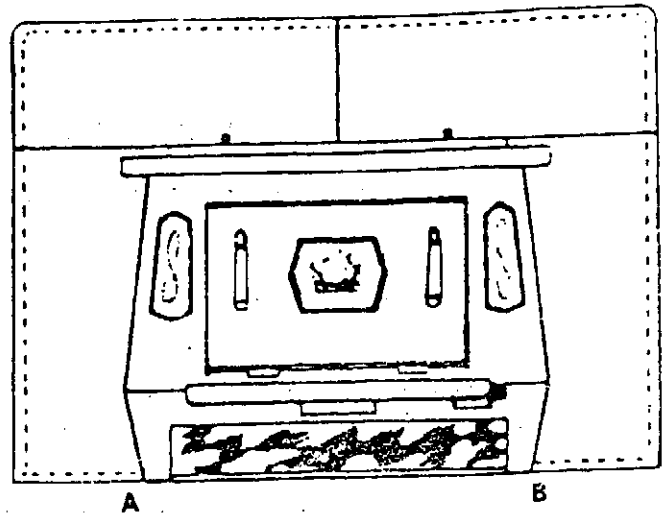

Figure 7
10. Insulation (furnished) must be placed around the entire perimeter of the shroud back to form a seal between the shroud and the fireplace face. Using a high temperature silicone sealant (not furnished) such as "G.E. Silicone Sealant" or the equivalent, run a bead about 1" in from the edge of the shroud at point "A" around the perimeter to Point "B" (see Figure 7). Apply the insulating material just in from the edge, sticking it to the silicone, allowing no gaps or skips.